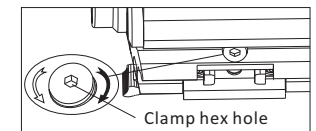

Fig4
- ① There is one hex hole at the end of clamp adjusting screw by the side of device. (See Fig4), before installation, Left rotating screw to loose the convex set with hex spanner, and than.
- ② Pull up the CAM clamp hand shank. Slid the sight in rail, close the clamp hand shank.
- ③ Right rotate the adjusting screw hole by hex spanner, tighten Convex set with rail to moderate degree. Try to pull up and close the hand shank, adjusting the clamp screw to appropriate degree, neither too tight nor too loose, and can be avoid to loose under recoil shock.